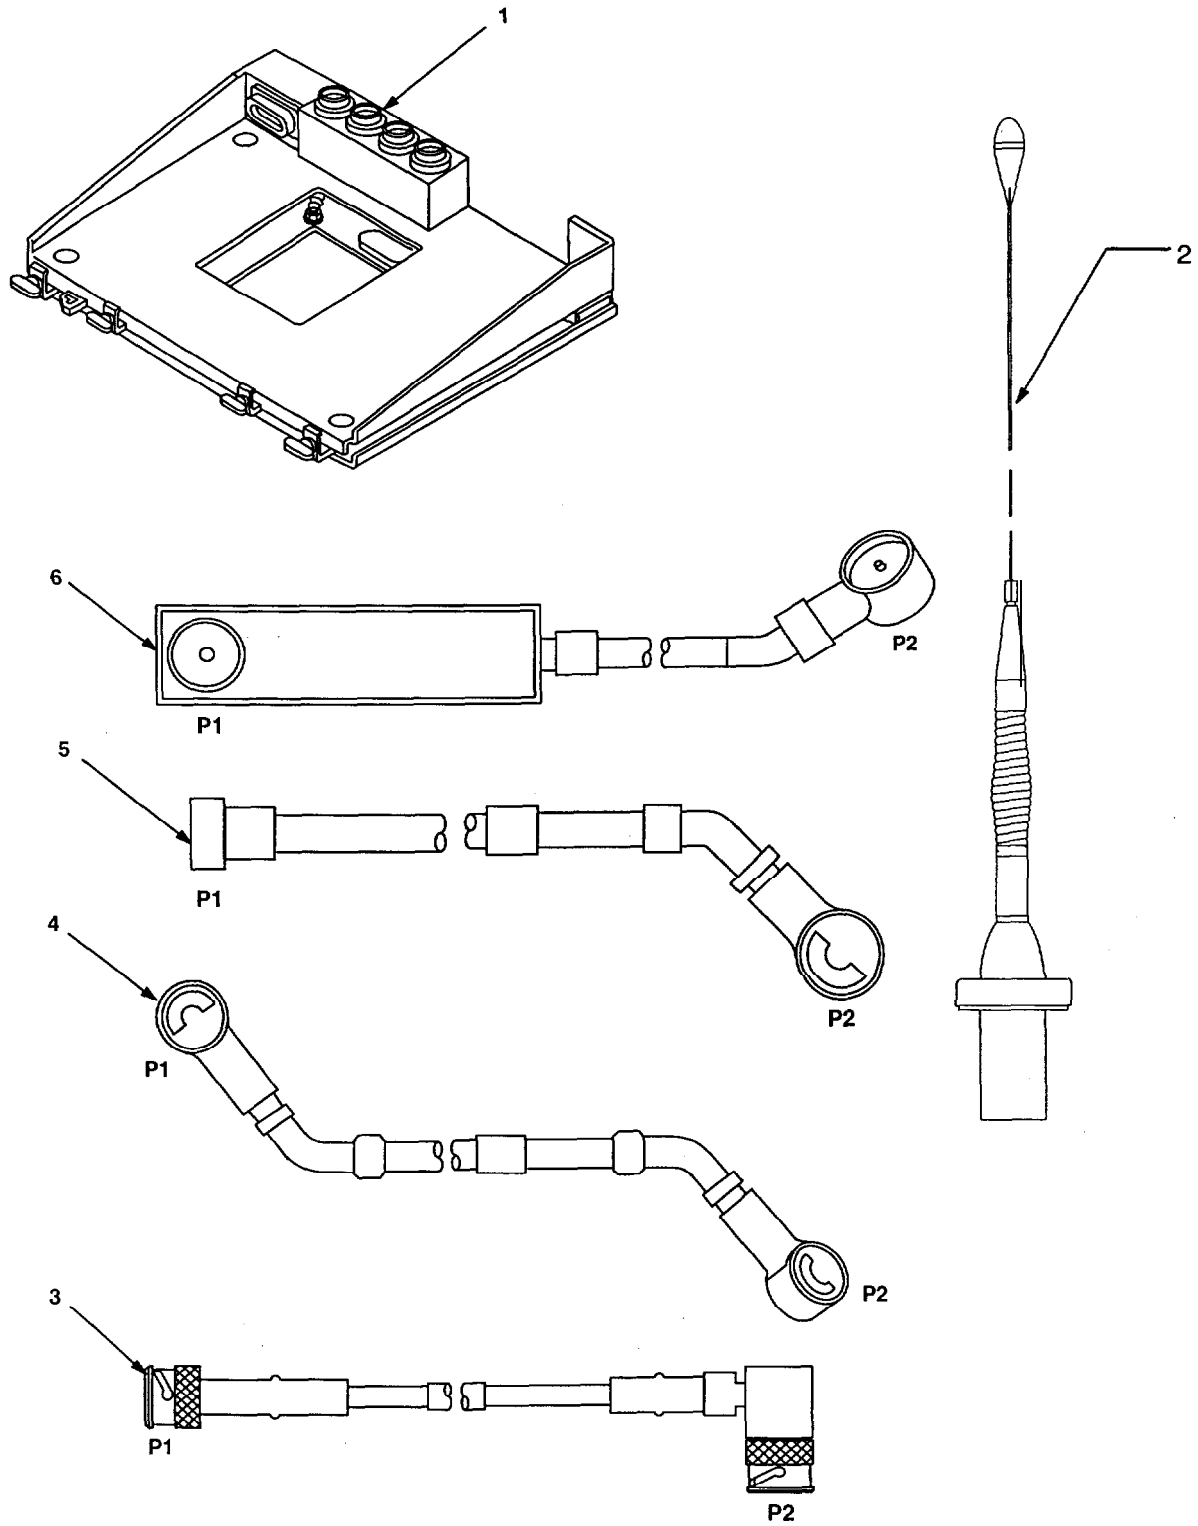
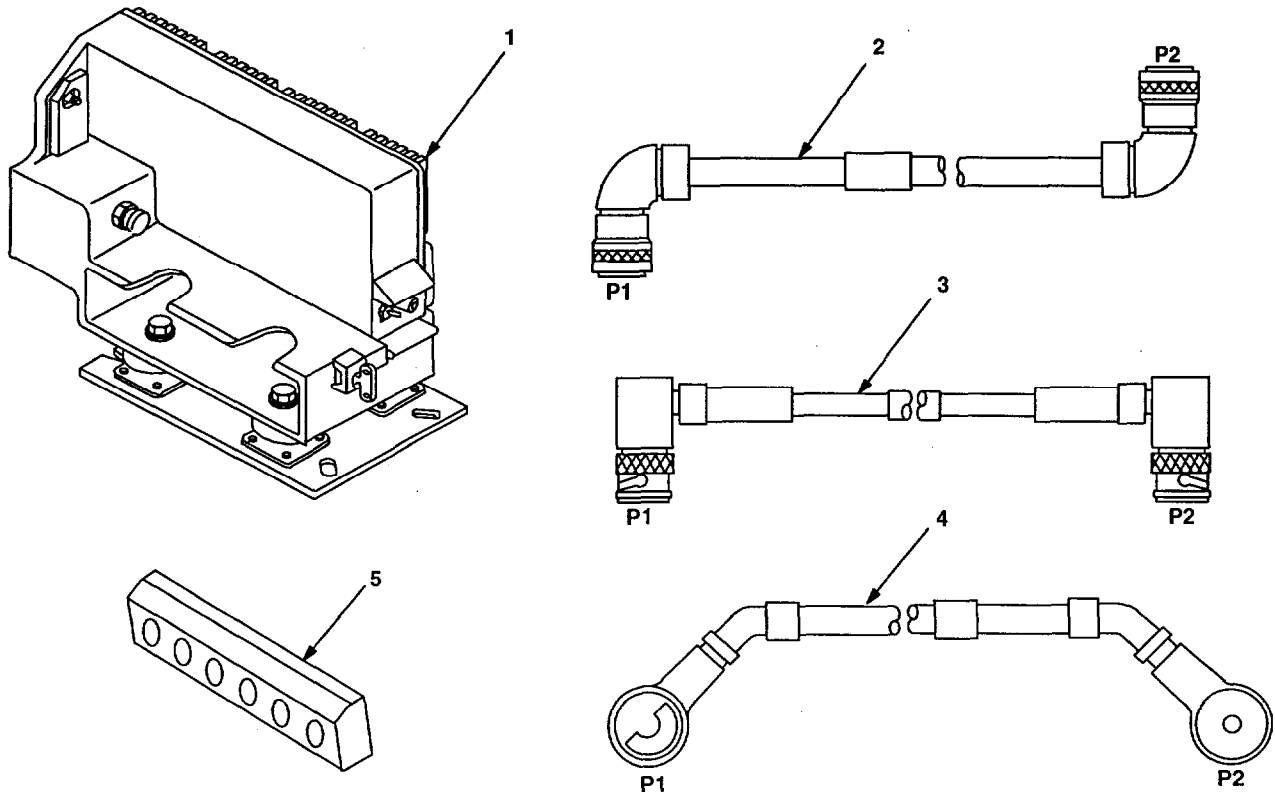

Figure 4-1. MK Illustrated Parts List
Figure 4-2. Illustrated Parts List for Table 4-2
4.3.1 Items Supplied in MK and/or Required for Installation. Use Table 4-1 and figure 4-1 to identify and inventory MK parts supplied to install Radio Set AN/VRC-89/91/92 Series. Refer to Table 4-2 and figure 4-2 to identify additional items required to install Radio Set AN/VRC-92 Series.